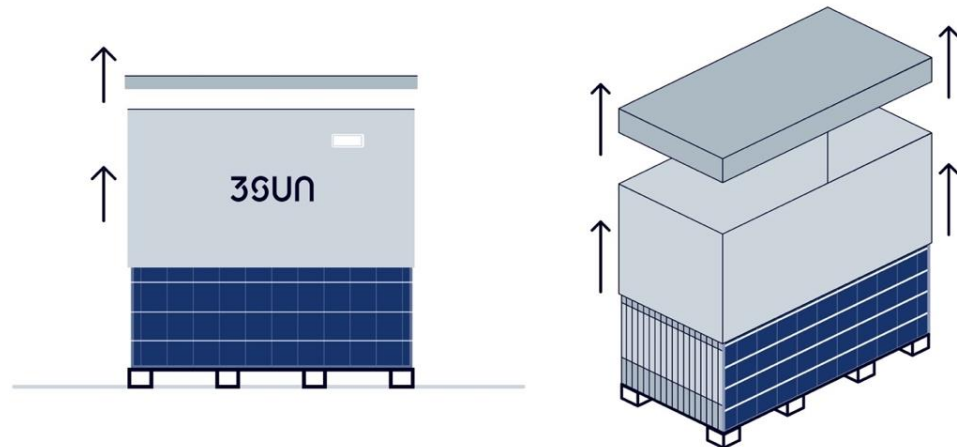

Figure 15: Removal of perimetral cardboard box and box top.
- b) Remove the box cardboard cap and then the perimetral cardboard box (Figure 15).